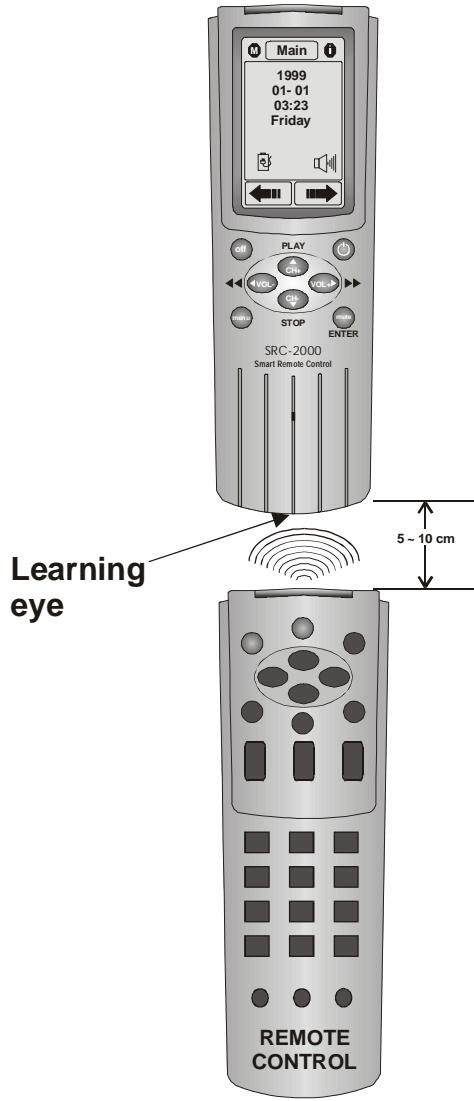

Figure 4-6: Using the Learning eye
1. Point your remote control at the Smart Remote Control's Learning eye as shown in *Figure 4-6*.